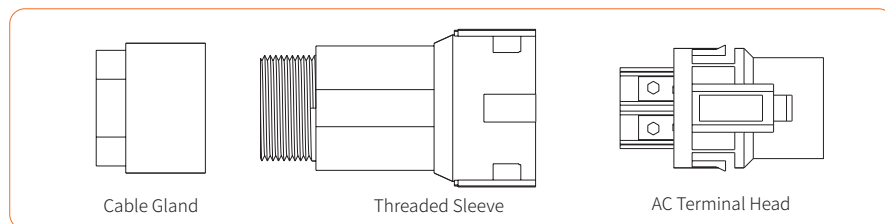

Figure 4-16
- ① Take the AC connector out of the accessory bag and disassemble it, as shown in Figure 4-16: